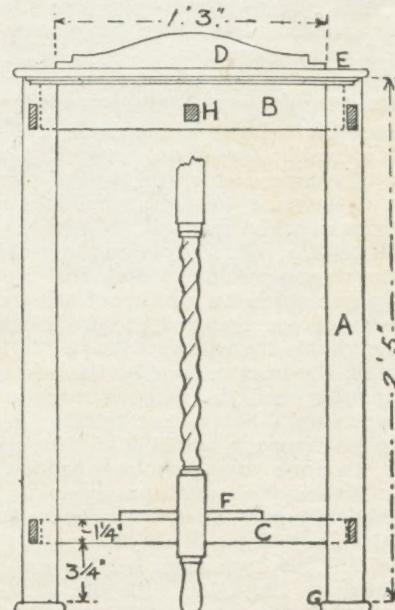

Fig. 1—Front elevation with dimensions
At the same time, have the piece C ready, and glue this as a support between the floor and the part B. These three pieces are shown in the detail at Fig. 1 where one side has been taken away to make it obvious.
The main back frame of the stand should first be made. A glance at Fig. 1 shows its proportions and the four rails which make it up. The two side rails (A) are cut square to length and sinkings formed at the tops and near the bottoms to the
measurements given in Fig. 1. The detail at Fig. 2 shows a back view of one rail with the top rail (B) cut ready for gluing and screwing into it. The width of the halving should be $\frac{1}{2}$ in., which allows ample space for the insertion of two countersunk screws.
In each upright (A) there will also be cut two open slots or mortises to receive the ends of the curved rails. The proper positions for these slots are clearly shown in Fig. 1. The slots measure $1\frac{1}{4}$ ins. by $\frac{1}{2}$ in.
The ends of this require shaping to the profile as in Fig. 1. The pediment rail (D) is cut to the simple shape shown with the fretsaw and is glued on and screwed with countersunk screws at the ends after the stand itself has been further completed.